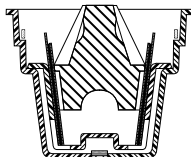

Figure 4. Cross Section of the Electrophoresis Apparatus.
ably into the gel support frame with the long plate and gel loading template resting vertically against the frame (figure 4).
5. Gently place the gel wedge block into the gel support frame until it is pressed firmly against the glass plates (figure 4). When the wedge block is fully seated, the electrophoresis buffer should cover the upper electrode by 3 to 5 mm, but be 8 to 10 mm below the top edge of the tank. Add more buffer if needed. Make sure that no bubbles are trapped under the bottom edge of the gel. Bubbles trapped under the rim or between the gel and the wedge block will not affect performance.